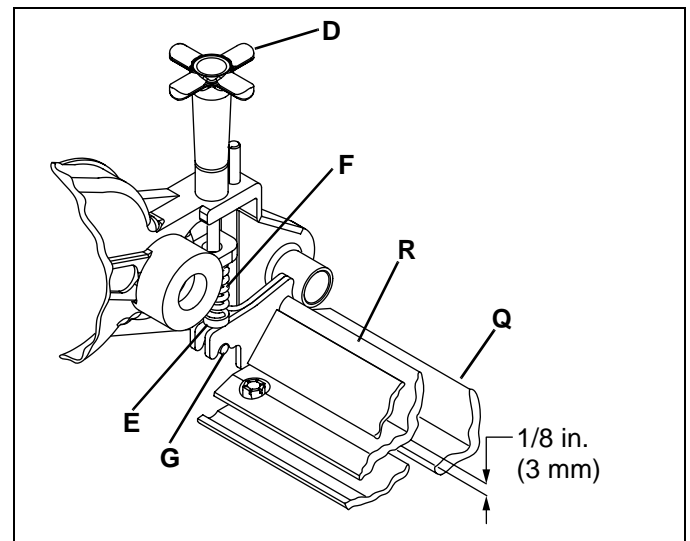

Figure 6A
1. Remove both bedknife adjusting handles, springs, spaces and screws (**D~G - Figure 6A**) to allow the bedknife to swing free of reel.